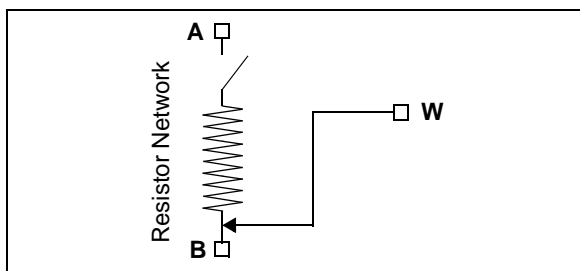

FIGURE 5-2: Resistor Network Shutdown Configuration.
- The PxW terminal is simultaneously connected to the PxB terminal (see Figure 5-2)